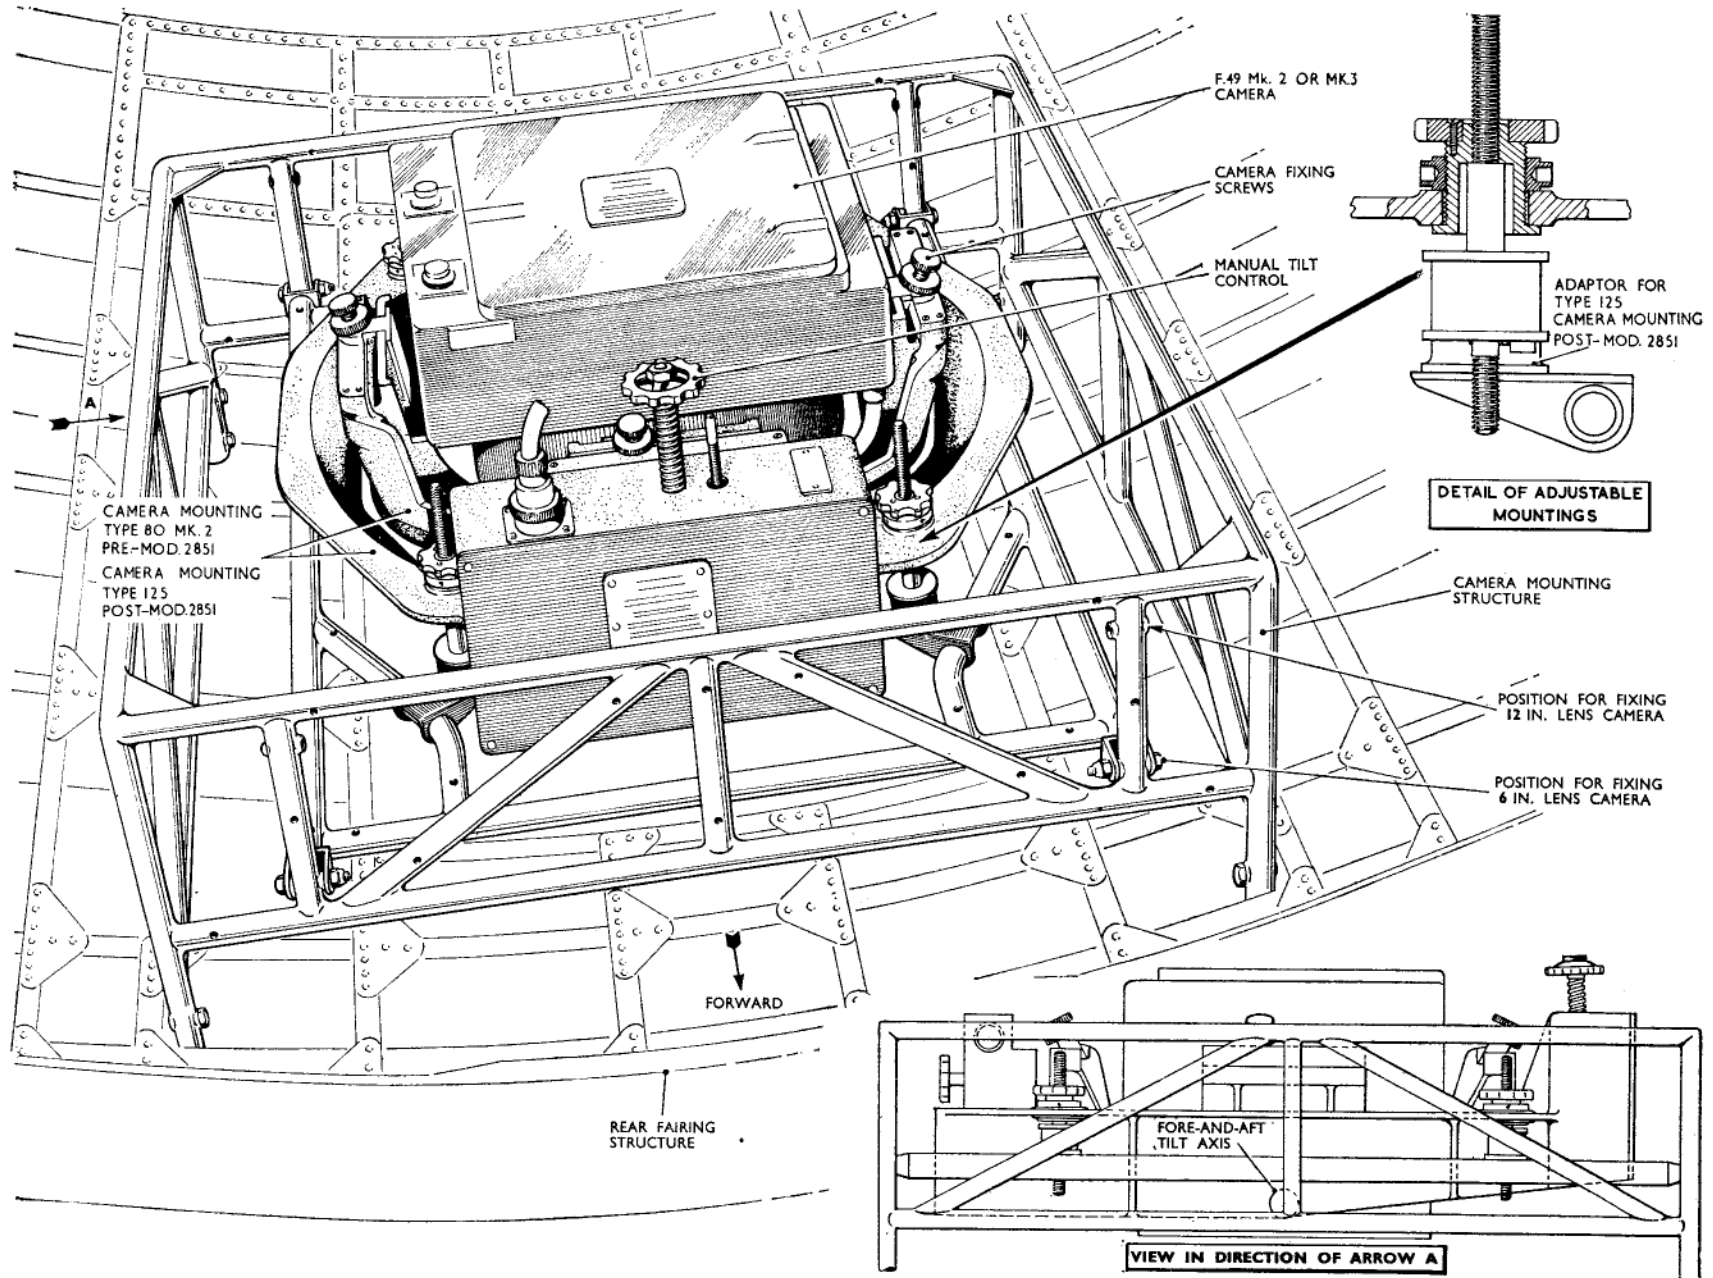

Fig. 6. Rear fairing camera mounting ◀ Alternative camera mounting (post-Mod. 2851) ▶
**Rear fairing camera mounting (fig. 6)**